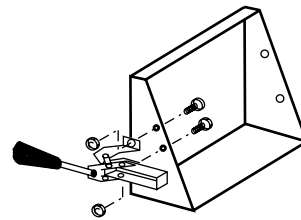

Fig. 9
4. Attach feed door locking handle as in Figure 9 with screws and nuts provided. Note: Slotted holes are for adjustment of handle. Adjust handle until some pressure is required to lock feed door during firing sequence.